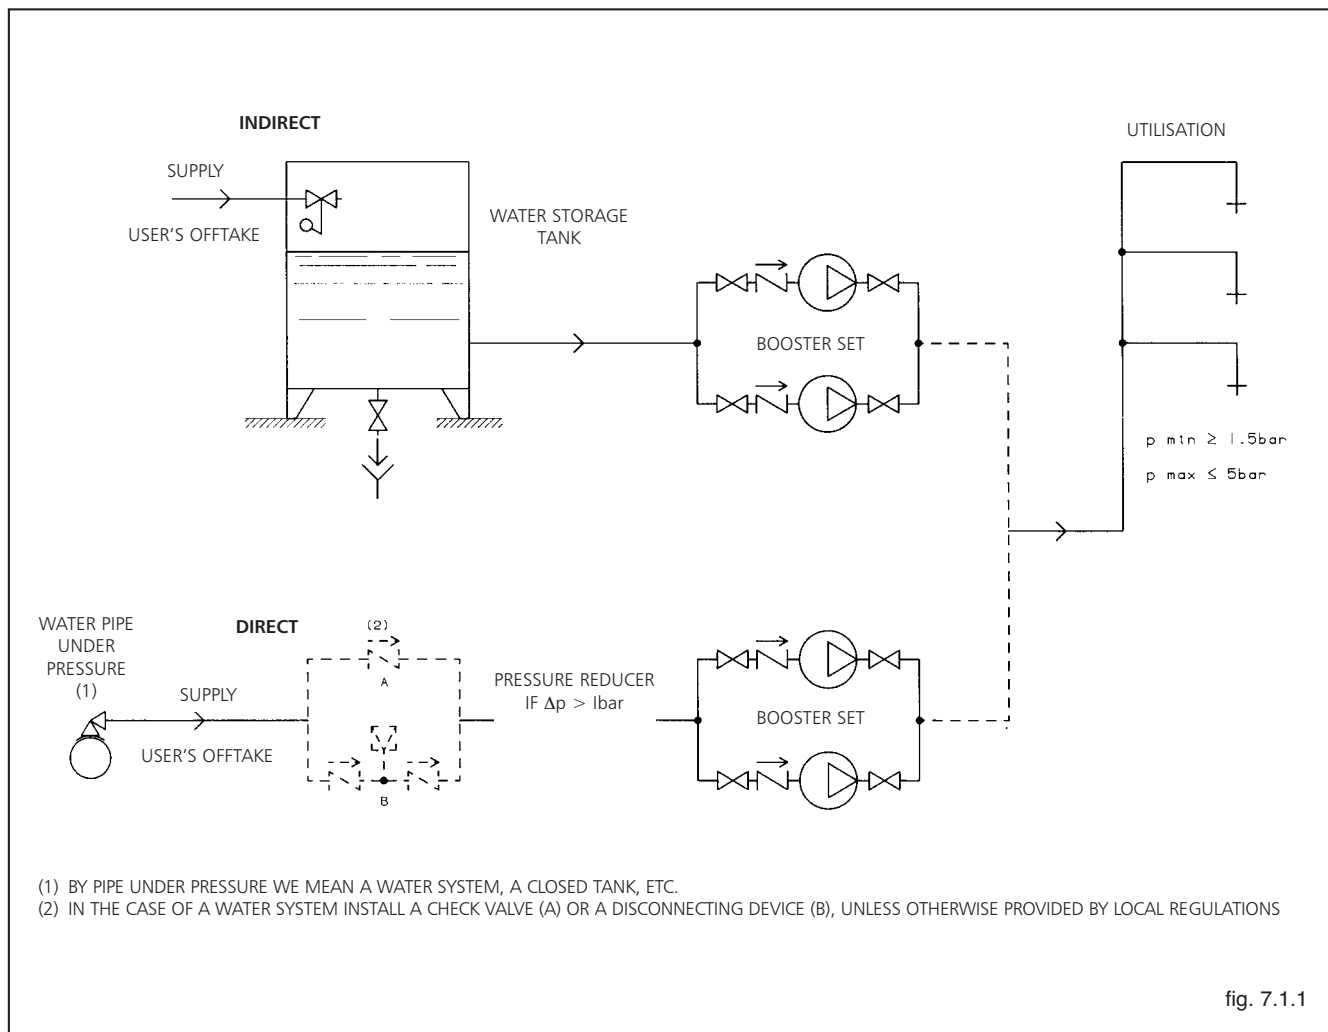

fig. 7.1.1
- 1 - By installing a water storage tank between the user's offtake and the booster set (indirect connection, fig. 7.1.1).
- 2 - By connecting the booster set directly between the user's offtake and the system (direct connection, fig. 7.1.1).